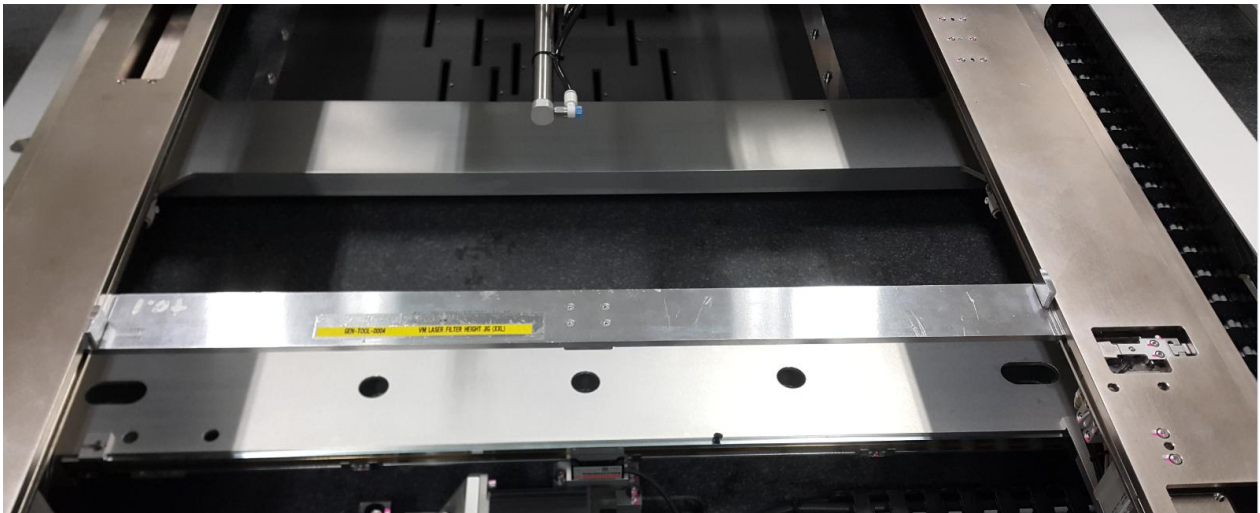

Figure 6 Filter Height Jig Placement (Clamper)
7. Once Filter Height Jig is align as Figure 6, close Clamper by using the V810 GUI to hold the Jig in its position